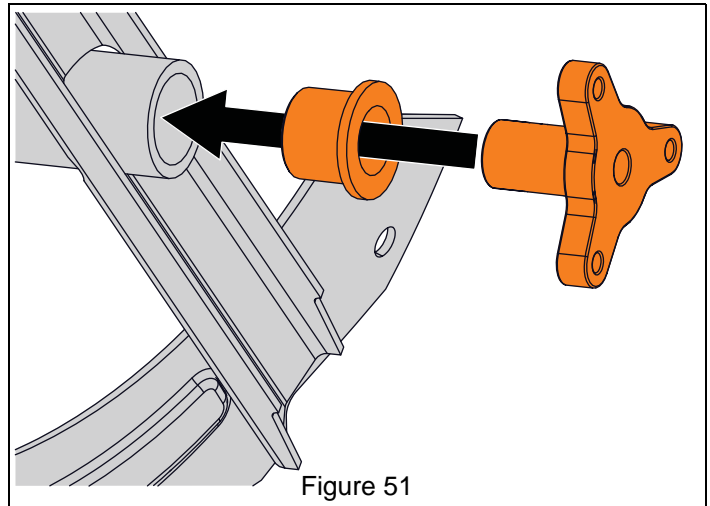

Figure 51
4. Reinstall flange bushing and support bushing onto auger shaft end. See Figure 51.